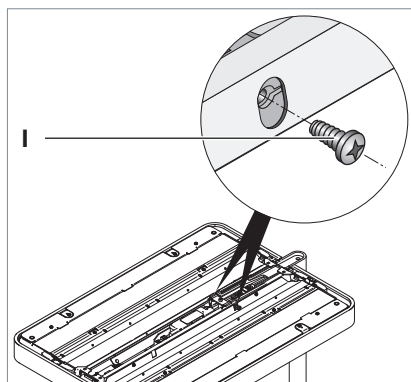

Fig. 6: Fastening the light head.
- Fasten the light head by screwing in and tightening both fastening screws **I**, see Fig. 6.